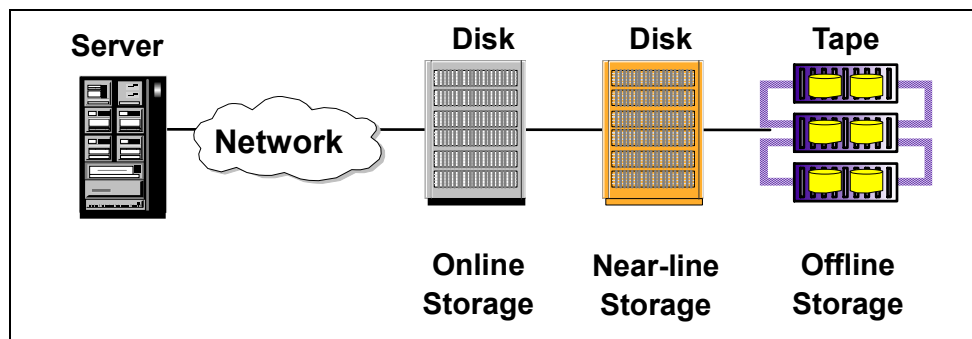

Figure 2-13 Near-line backup scenario
The backup of secondary data can be achieved more efficiently when the near-line storage device acts as a caching device between Fibre Channel (FC) disks and tape, allowing the primary disk to remain online longer. Some advantages of this backup method are that it is faster and consumes less server CPU than direct backup to tape (Figure 2-13).